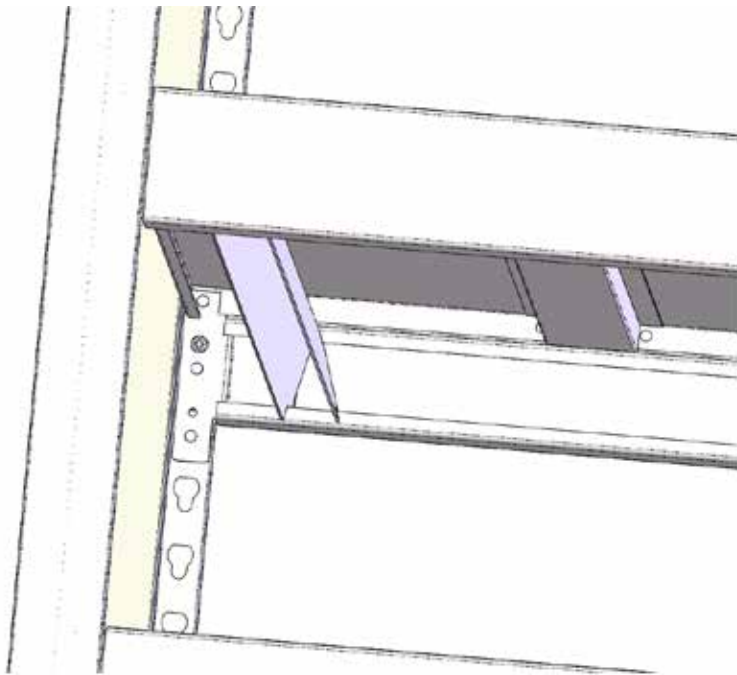

Fig.13
5. Drill the #10x3/8 PH screws into each ear of each beam through the hole below top rivet and into post to secure beams as shown on Figure 13.